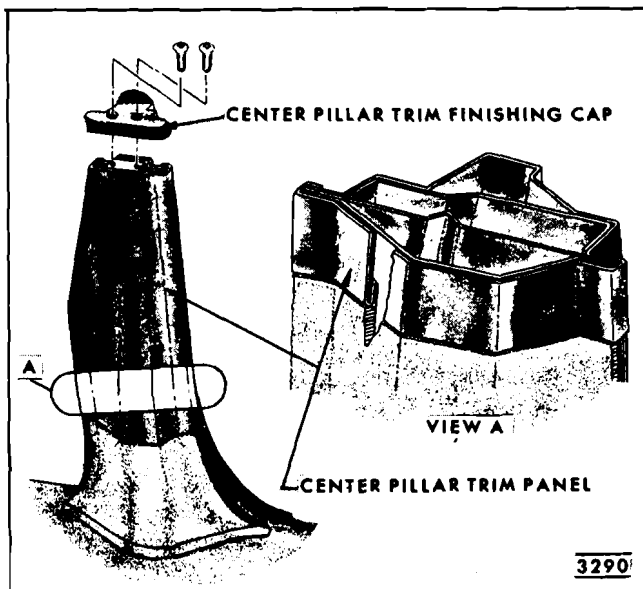

Fig. 14-38—Center Pillar Trim "A-B and C-39, 49" Styles. (26239 Custom, 48439, 682-68349 Styles Shown, Others Similar)
2. Remove attaching screw at top of trim panel on "A" styles; remove two attaching screws from finishing cap on "B-C" styles (See Fig. 14-38).